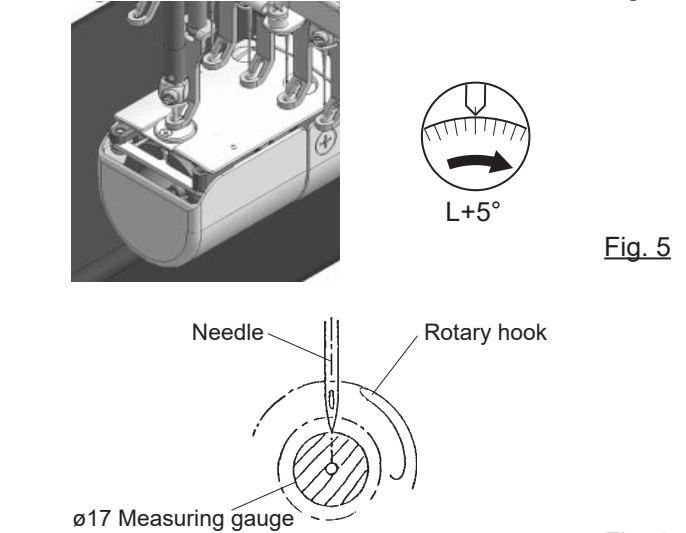

Fig. 6
4. Check the needle depth on all needles. Pull white plastic  $\phi 17$  measuring gauge in and out of rotary hook in Fig. 6. If measuring gauge brushes lightly against tip of needle, needle height is correct. Note: Measuring gauge is contained in tool box.